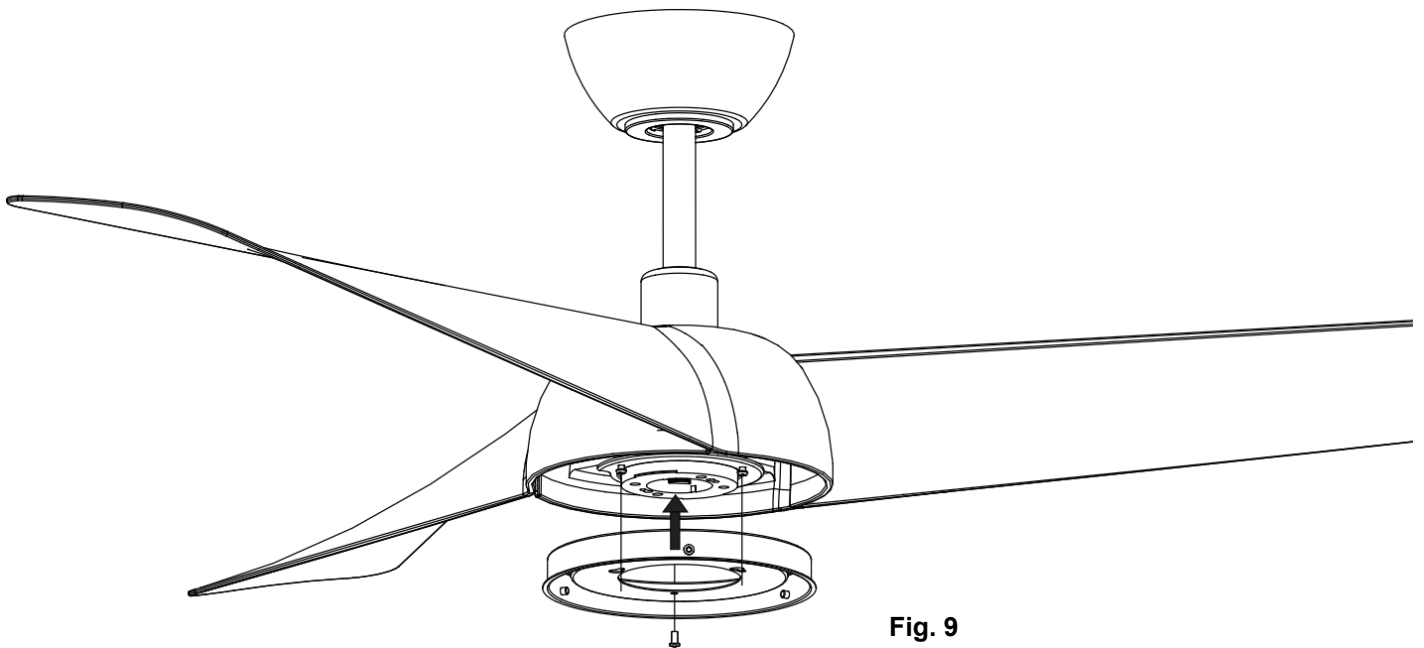

Fig. 9
**INSTALLATION OF LIGHT KIT (Fig. 9)**
1. Loosen the screw from the fan bracket. (Fig. 9)
2. Align the two slot screws with the keyhole slots of the light kit plate. (Fig. 9)